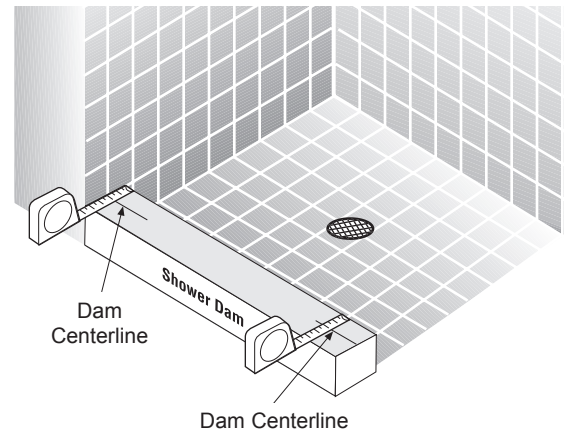

Figure 1
- A. Using the Measuring Tape, find the center of the shower dam. Make a mark where the center is at both sides of the dam. (See Figure 1).